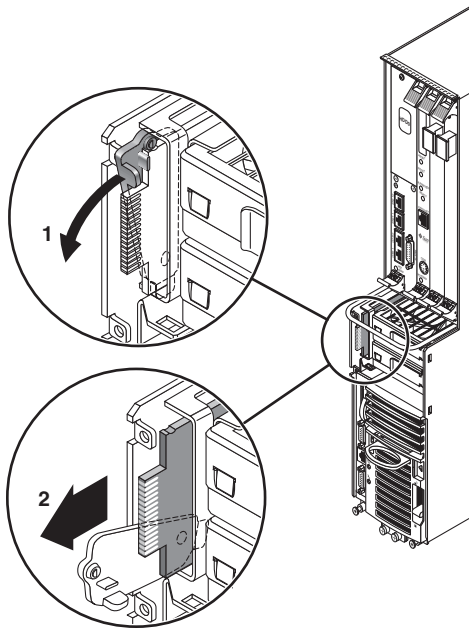

FIGURE 8-8 Removing a System Controller Board
3. Pull down on the ejection lever to unseat the system controller board (FIGURE 8-8).